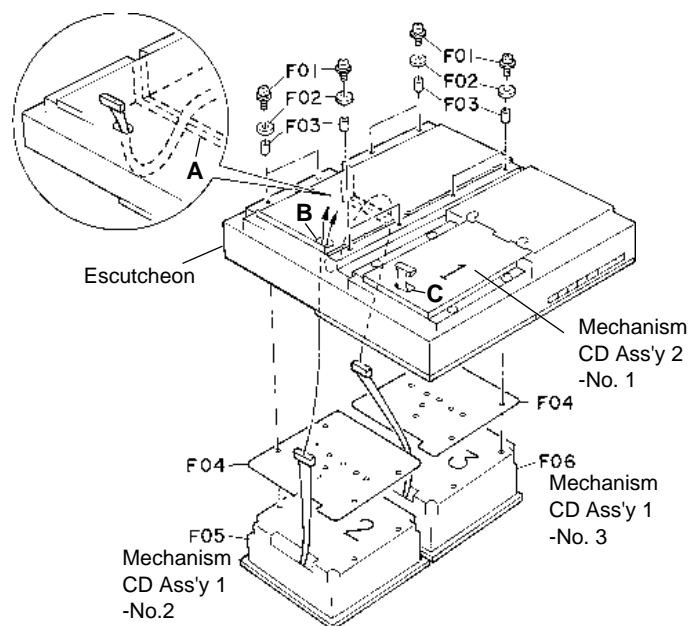

Fig. 1.3
Refer to Fig. 1.3.
- Pass the cables of each Mechanism CD Ass'y through the holes "B" and "C" as shown in Fig. 1.3. For Mechanism CD Ass'y 1-No. 2/No.3, extend their cables approx. 10 cm.